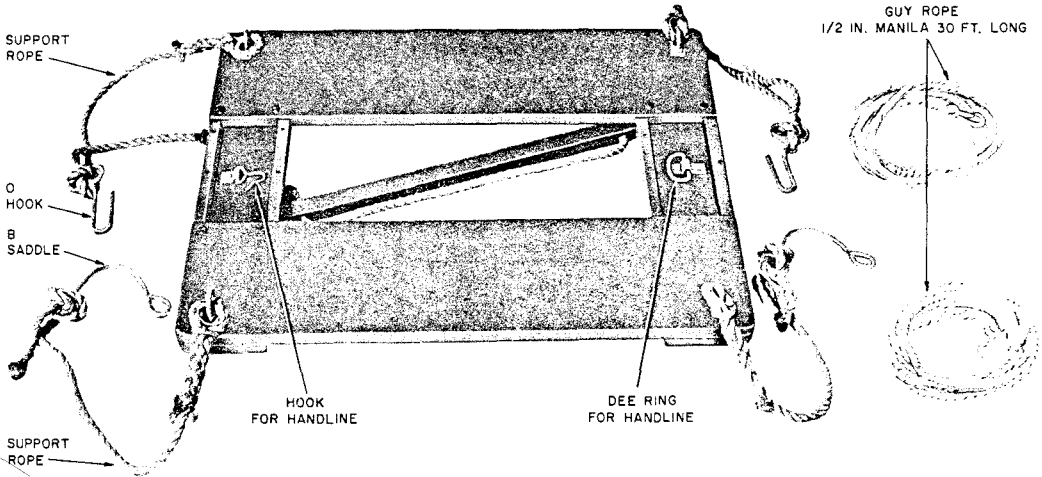

Fig. 1—D Aerial Platform
2.04 The D Platform, which is approximately 42 inches long by 35 inches wide and weighs 38 pounds including guy ropes and support ropes, is illustrated in Fig. 1.